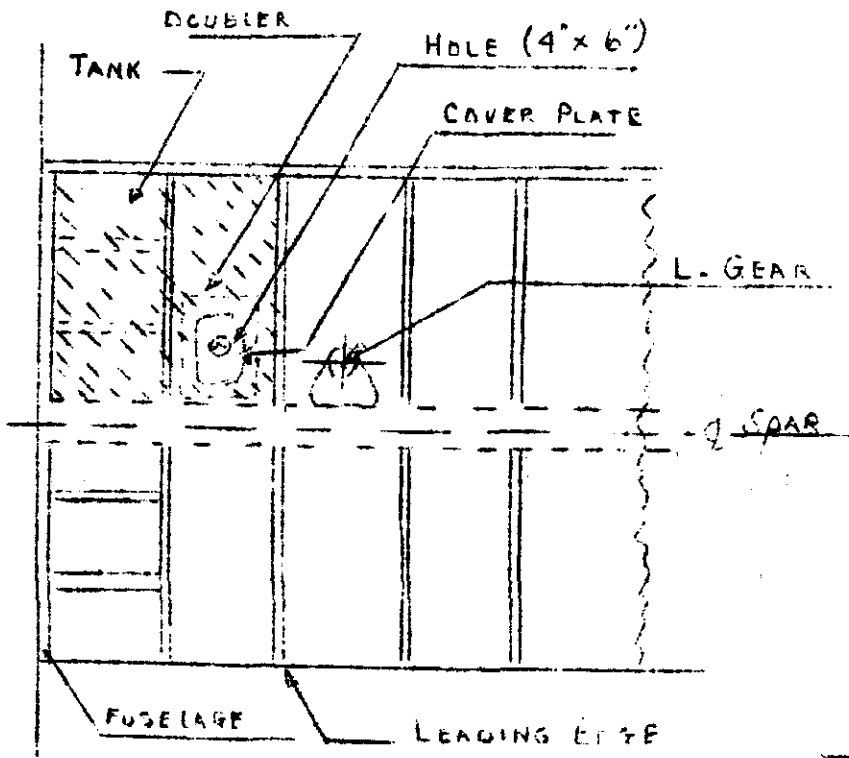

FIG. 1
*See Fig. 1
Each tank should have one access panel on the top skin (see fig. 1) (clear opening size: 4" x 6". The cover plate should be attached to a skin doubler (.050) with screws (MS24694-C13) and sealed nutplates (NAS 147343) Locate the filler neck and gas cap in the center of the cover plate. Use flush type gas cap. You may try these two suppliers: